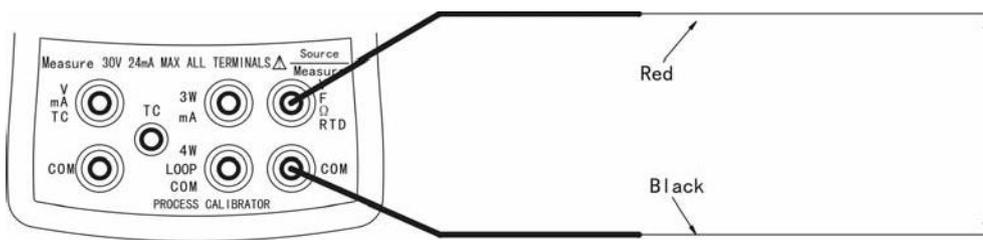

Figure6-6 Connections for Simulating an RTD
- (1) Press  until the lower display shows "SOURCE".
- (2) Press  to select RTD display. Continue pressing it to select the desired RTD type.
- (3) Connect the test leads as shown in Figure6-6.
- (4) Enter the desired output value by pressing the numeric